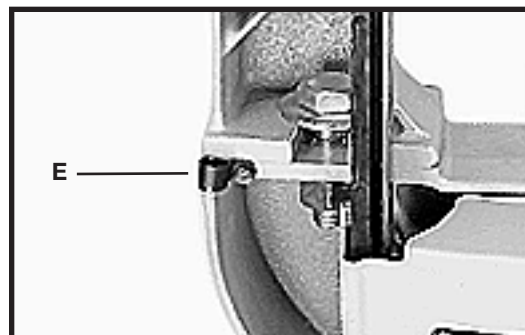

Fig. 15
4. Remove the screw and cable clamp (E) Fig. 15 from the lower arm of the band saw.
5. Insert the switch cord into the clamp (E) (removed in **STEP 4**), and fasten the switch cord to the machine.